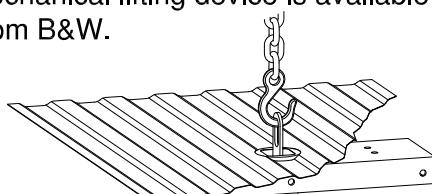

FIGURE A1
**4. Prepare a lifting device (optional).** The purpose of the device is to safely hold the hitch in position during part of the installation. See figure A1 for an example. A simple mechanical lifting device is available for purchase from B&W.